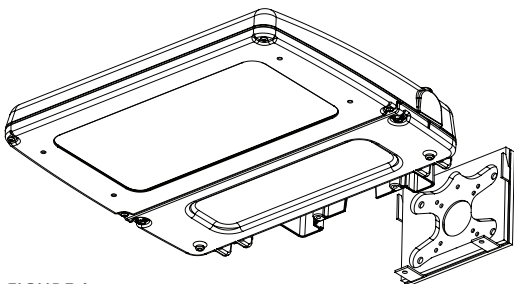

FIGURE 1
- An alternate method of mounting the Mounting Bracket over a recessed-mounted outlet box is to position back cover over the box and securely mount with lag bolts (not provided) through the holes provided in the back cover (see Figure 1).